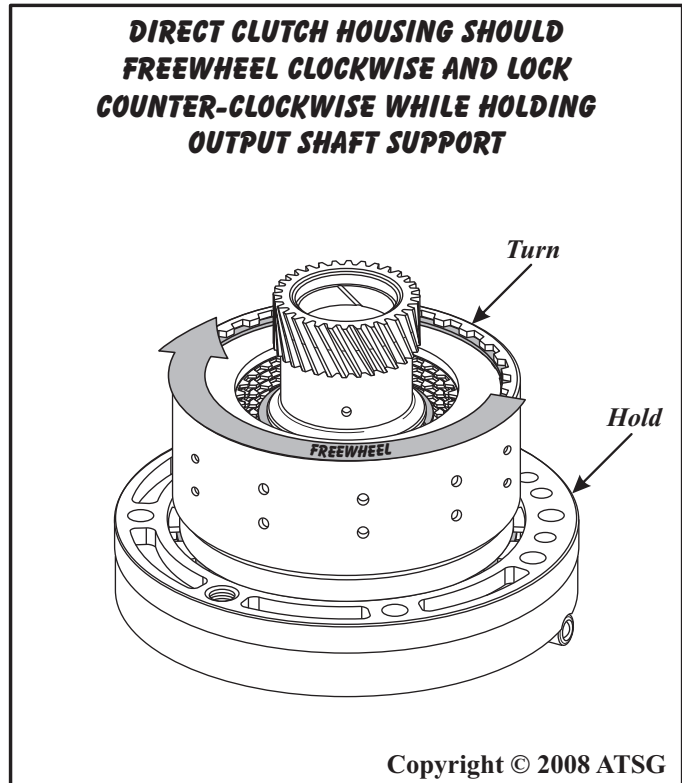

Figure 154
14. The direct clutch housing should freewheel clockwise, and lock counter-clockwise, as shown in Figure 154.